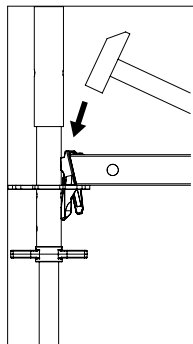

Fig. A2.01c
5. Drive in the wedges of the Horizontal Ledgers (**3**) using a 500 g hammer. (Fig. A2.01c)